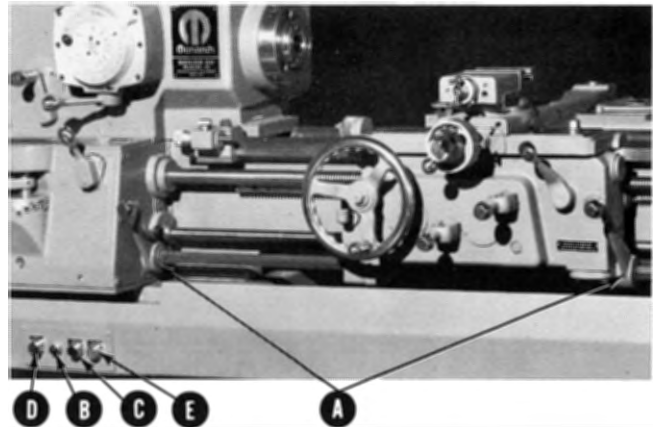

Figure 8. STARTING OF MAIN DRIVE MOTOR AND SPINDLE
1. Place the spindle forward - stop/reverse levers (A), Figure 8 in the middle or stop-position.
2. Place the disconnect switch (mounted on the door of the electrical cabinet) in the "on" position. Red pilot light (B) on pushbutton station will glow.
3. Depress the control-on button (C) to energize the control cabinet. Start the spindle by placing lever (A) in down or forward-position. Stop the spindle by placing lever (A) in middle or stop-position. Reverse the spindle by placing lever (A) in up or reverse-position.
4. When coolant is furnished on machine the coolant pump motor is controlled by an on/off selector switch (D).
5. Depress the control-off button (E) and the control cabinet is de-energized. The red pilot light continues to glow. This is a warning to the operator that the power supply is still on and will continue to be so until disconnect switch is placed in the "off" position.